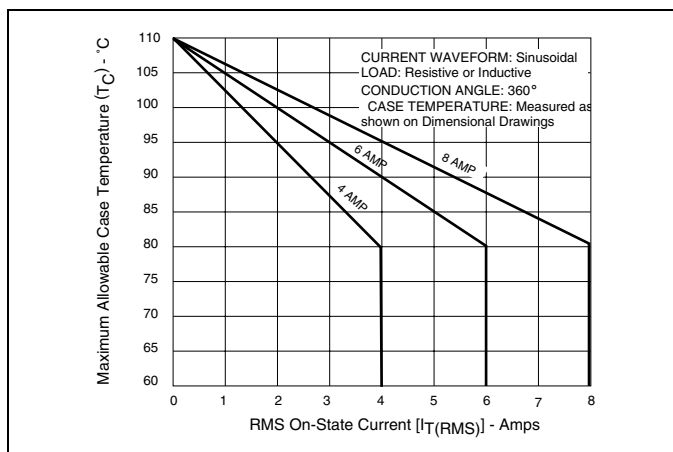

Figure 1.1 Maximum Allowable Case Temperature vs On-State Current
- (5) See Figure 1.1 for maximum allowable case temperature at maximum rated current.
- (6) Pulse width $\leq 10\mu s$.
- (7) $T_C = T_J$ for test conditions in off-state.